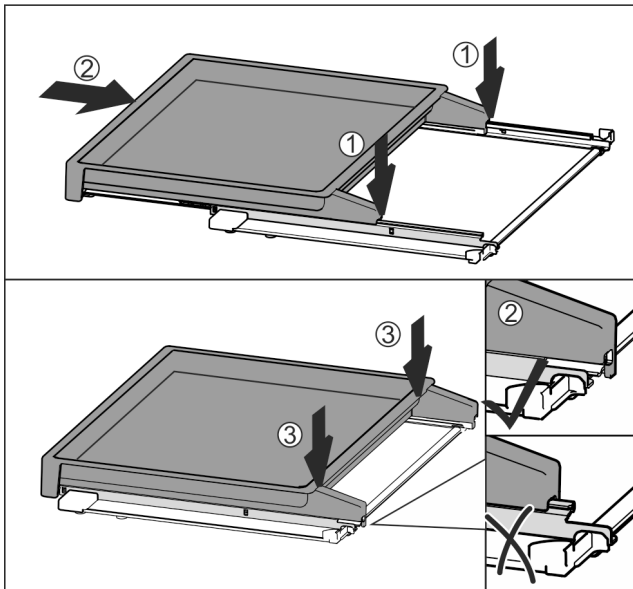

Fig. 115
- ▶ Place centrally on the rails Fig. 115 (1).
- ▶ Slide the pull-out board all the way in Fig. 115 (2).
- ▶ Press down at the back until it clicks into place Fig. 115 (3).